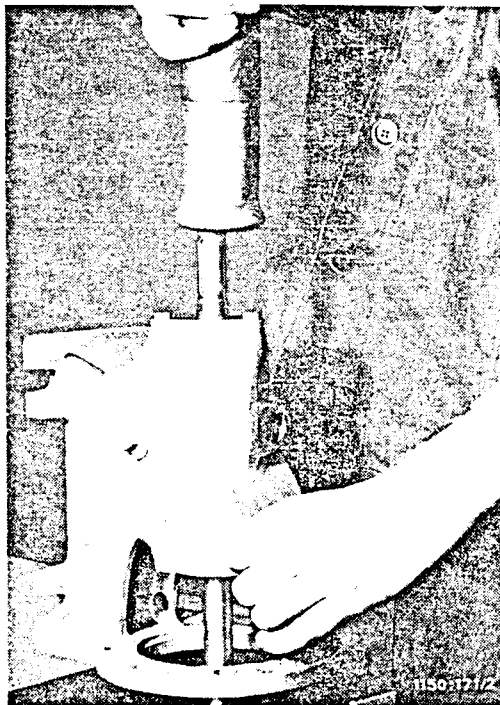

Fig. 14
6. Remove oil dipstick (f) from bearing bracket, remove coupling key, and carefully drive the shaft out of the bearing bracket with gentle taps on the coupling end of the shaft – see fig. 14 – and remove it from the bearing bracket.